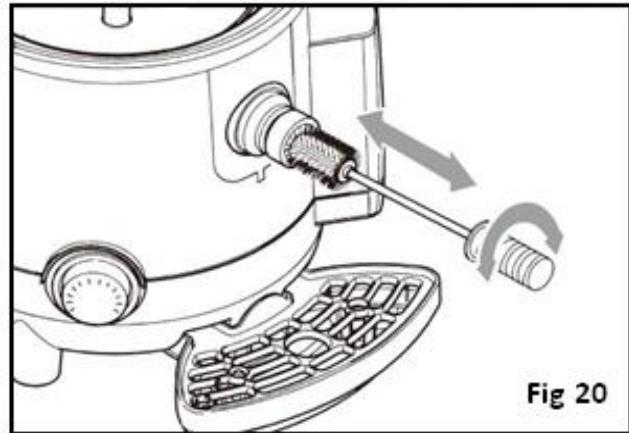

Fig 20
- Clean the channel connecting the bowl and the tap, using a cleaning brush (included) (fig 20).